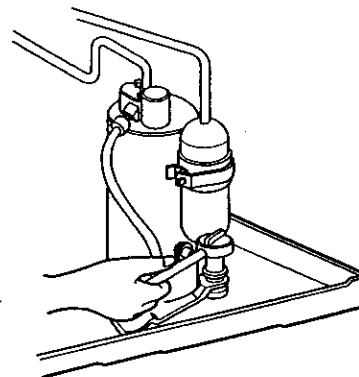

Figure 66
6. Remove the compressor. (See Figure 66)